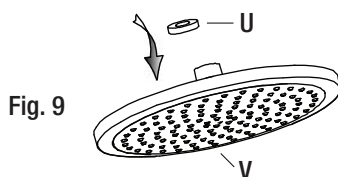

Fig. 9
- Check that the rubber washer (U) that is pre-assembled on the shower head (V) is not loose, see Fig. 9.